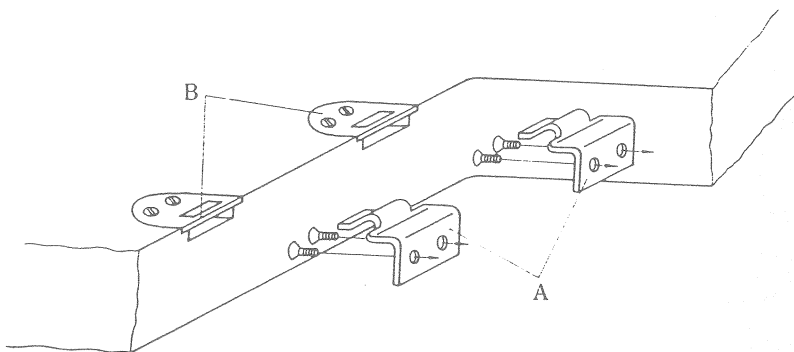
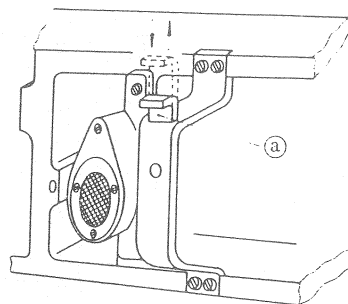

Fig. 6
Fig. 7
Attach two L shape hinges (A, Fig. 6) to bed side and hook them to semi-circle hinges (B), then, push the support plate (a, Fig. 7) downward as far as it will go and set the machine on the table.
Caution: When putting the machine on other places than table, pull up the support plate (a, Fig. 7) so as to keep the balance of the machine.